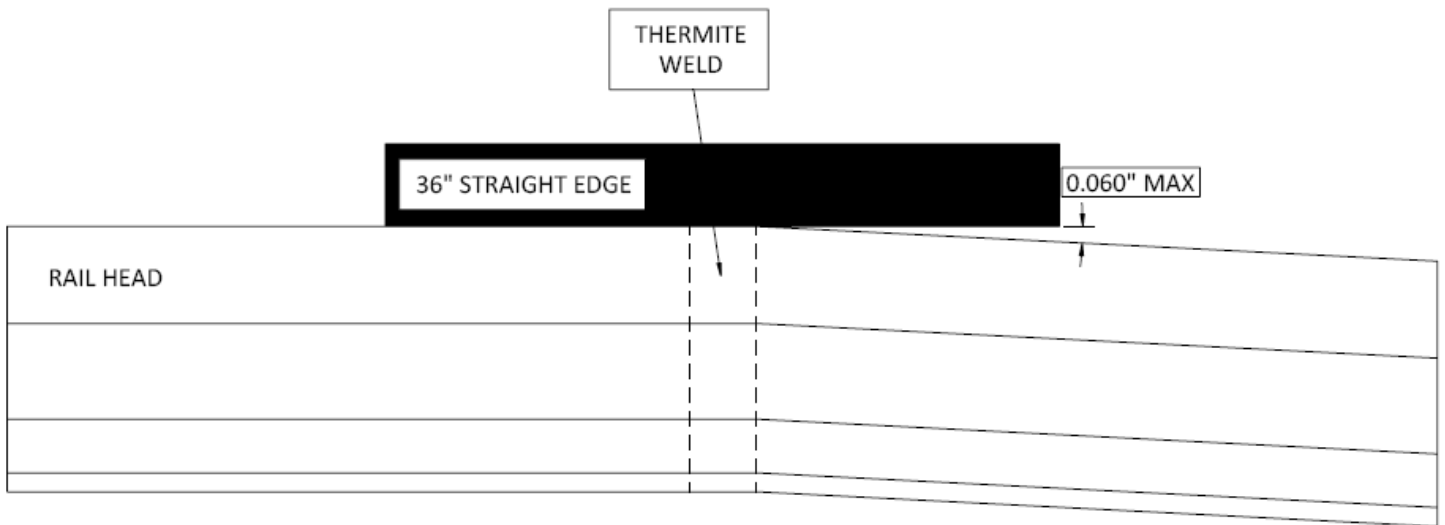

Fig. 30.3
- c. Combined vertical offset and crown should not exceed sixty thousandths (0.060) of an inch. (Figure 30.3) Goal: Less than 0.000"